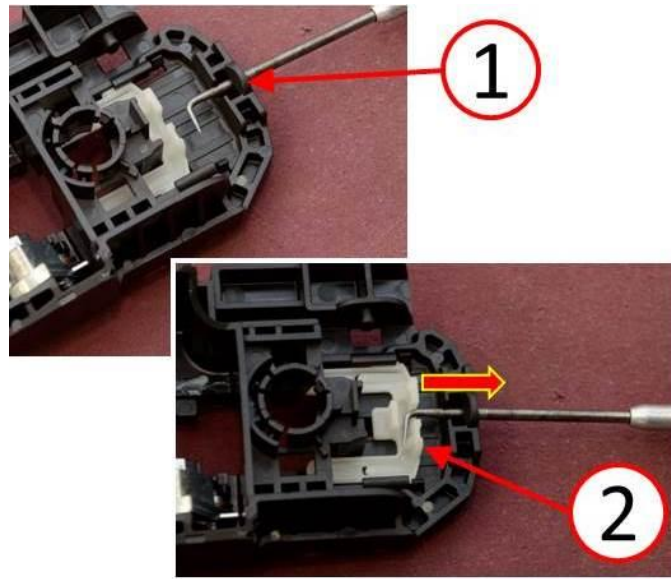

Fig. 4 Release Door Handle Cap Retainer
4. With the pick tool inserted into the access hole (1), hook/capture the door handle cap retainer (2) and pull rearward to unlock the door handle cap (Fig. 4).